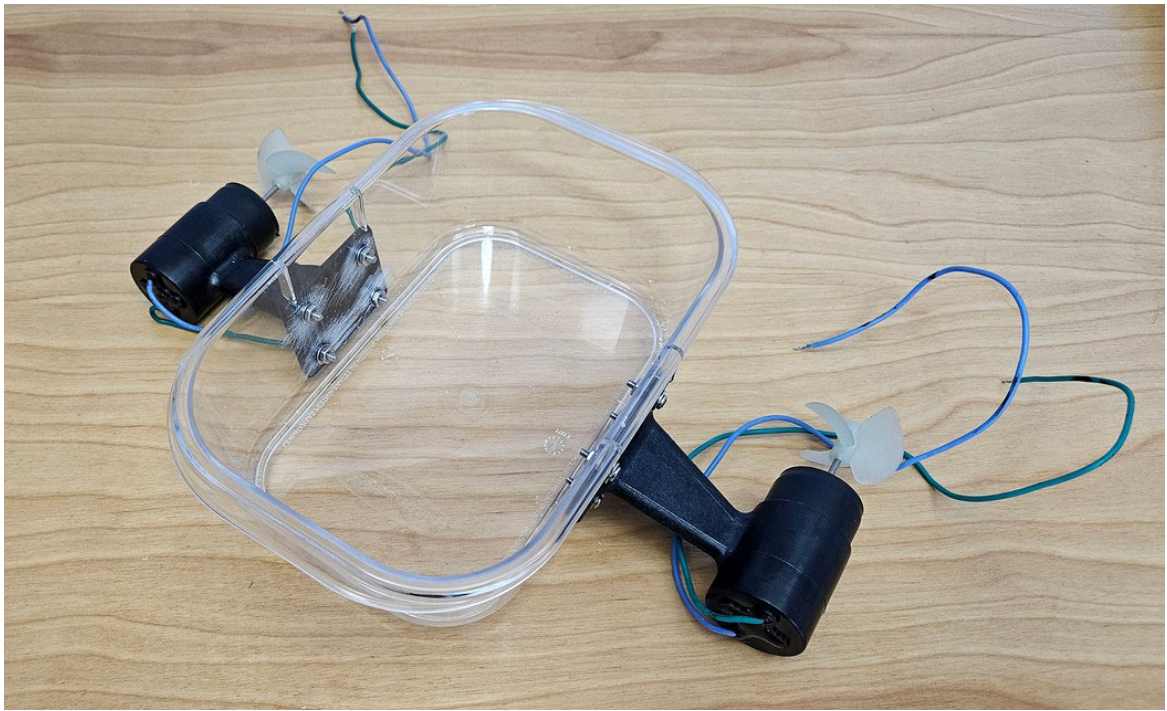

Figure 7. Motors bolted to the sides of the waterproof container.
- c. Figure 7 shows motors bolted to the sides of the container.